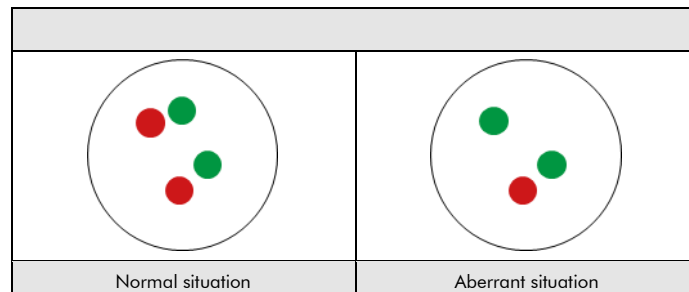

Fig. 4: Expected results in normal and aberrant nuclei
**Normal situation:** In interphases of normal cells or cells without deletion involving the 19q13 locus, two distinct dot-shaped red and two distinct dot-shaped green signals appear (see Fig. 4).
**Aberrant situation:** In a cell with deletion affecting the 19q13 locus, a reduced number of red signals will be observed. Deletions affecting only parts of the 19q13 locus might result in a normal signal pattern with red signals of reduced size (see Fig. 4).